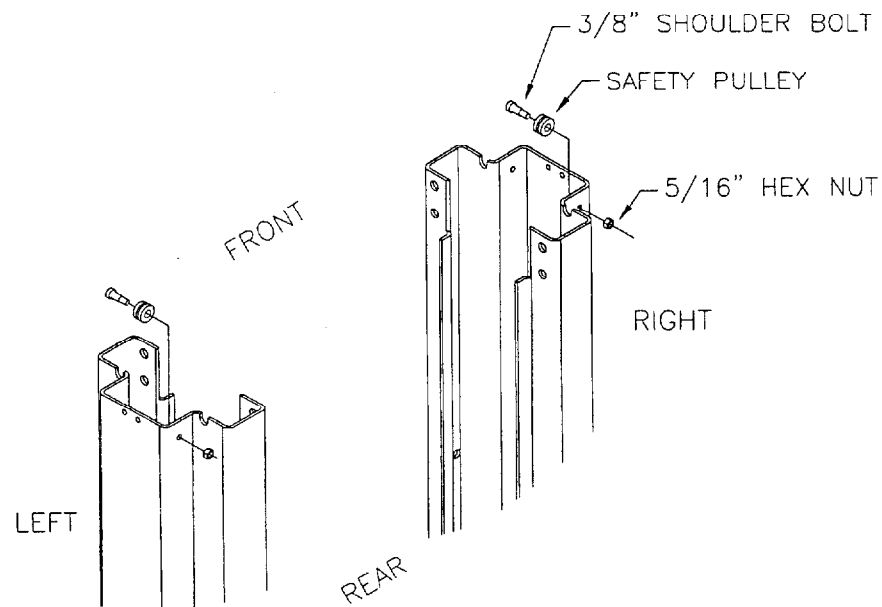

Figure 9 – Safety Release Pulley Installation
1. Install the safety pulley on each tower as shown in **Figure 9**. Attach the safety pulley to the tower using the 3/8" x 5/8" LG. shoulder bolt, 5/16" lockwasher and 5/16" hex nut.